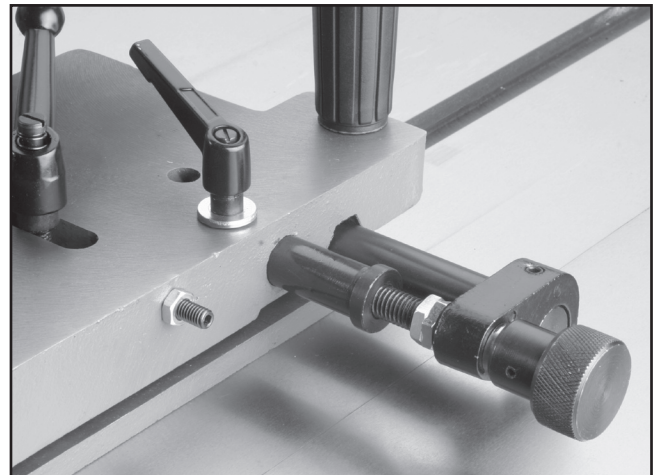

Figure 21. Major adjustment sleeve and micro adjustment knob.
6. Slide the jig up next to the saw blade, and use the major and micro adjustments (**Figure 21**) to line up the layout lines on the workpiece with the saw blade.